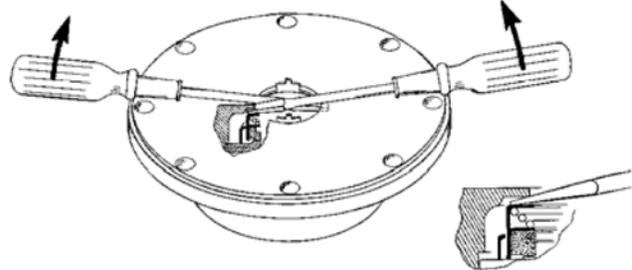

Figure 5 – Mechanical Seal Removal
3. Remove the inboard bearing cover capscrews (28) and slide the inboard bearing cover (27A) and gasket (26) off the shaft. Discard the gasket. The dirt shield will come off with the bearing cover. Inspect dirt shield and replace as required.
4. Remove the outboard bearing cover capscrews (28) and the outboard bearing cover (27) and bearing cover gasket (26). Discard the bearing cover gasket.
5. Remove the head capscrews (21). Gently pry the head away from the cylinder.
6. Slide the head off the shaft. The head O-ring (72), bearing (24), and mechanical seal (153) will come off with the head assembly. Remove and discard the head O-ring.
- a. Pull the bearing (24) from the housing in the head.
- b. To remove the mechanical seal, use two screw drivers against the backside of the seal jacket to gently push the seal from the head (see Figure 5. Use care when placing the screw drivers to prevent damage to the seal faces. Remove and discard the seal O-rings.